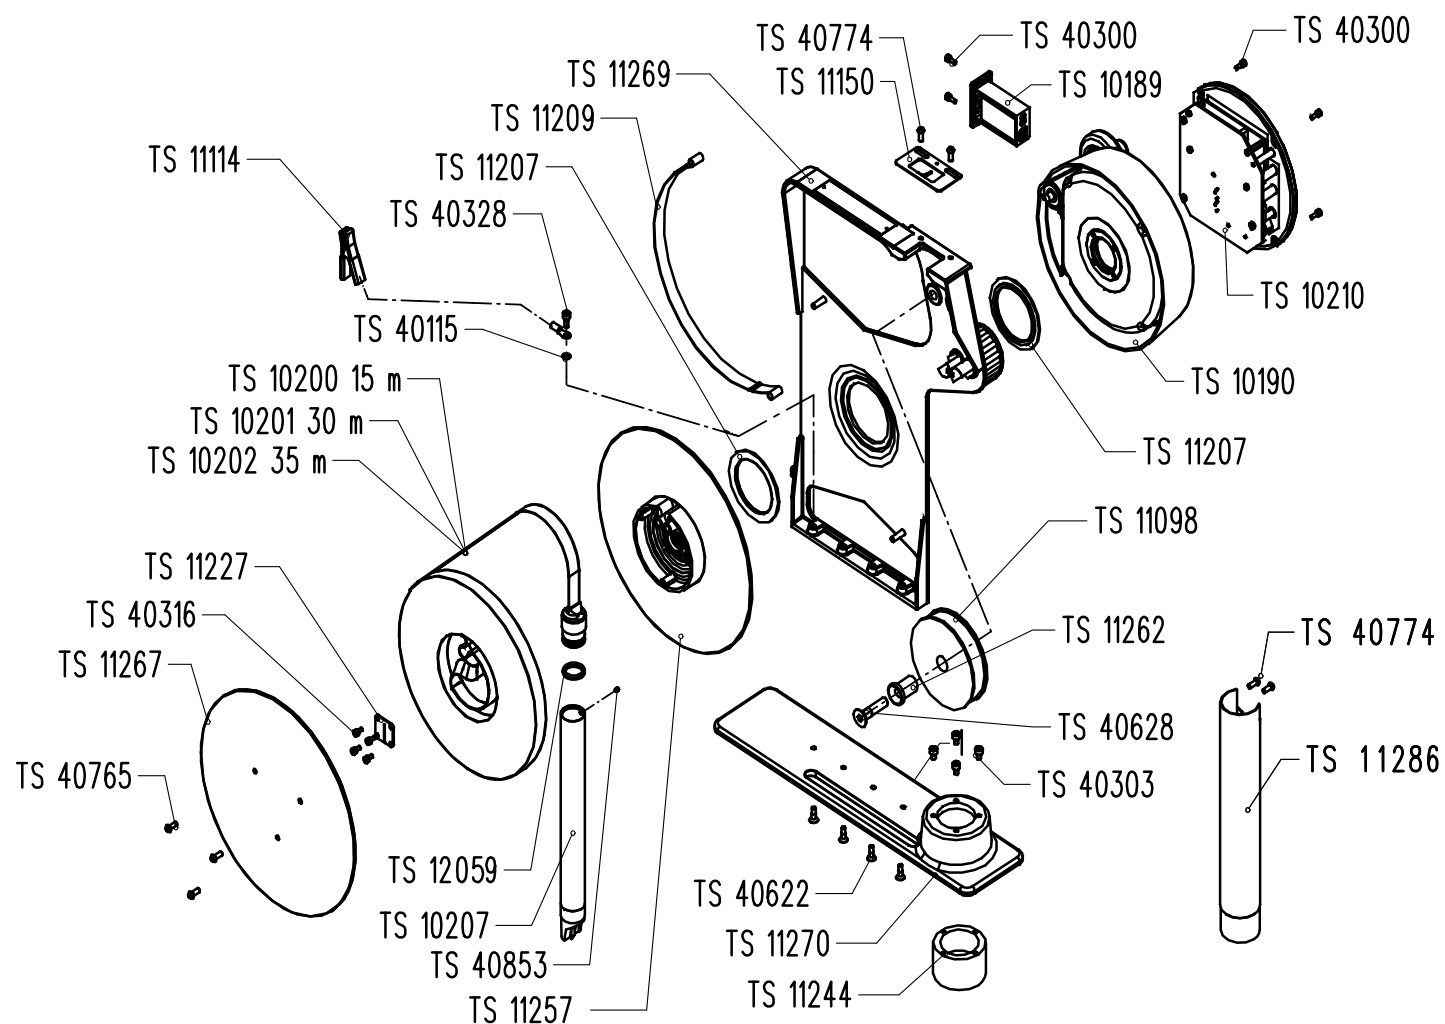

Figure 11-2 : general assembly HERMetric UTImeter Otex chem version, list of the main spare parts
- Figure 11-2 : general assembly HERMetric UTImeter Otex chem version, list of the main spare parts